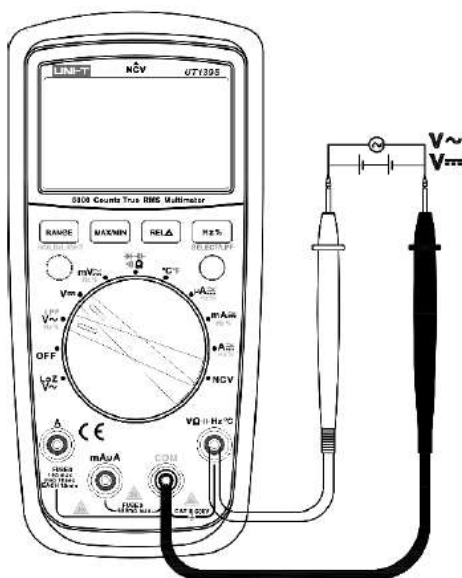

Figure 3
1. MASURARE TENSIUNE ALTERNATIVA SI CONTINUA (AC/DC) (fig.3)